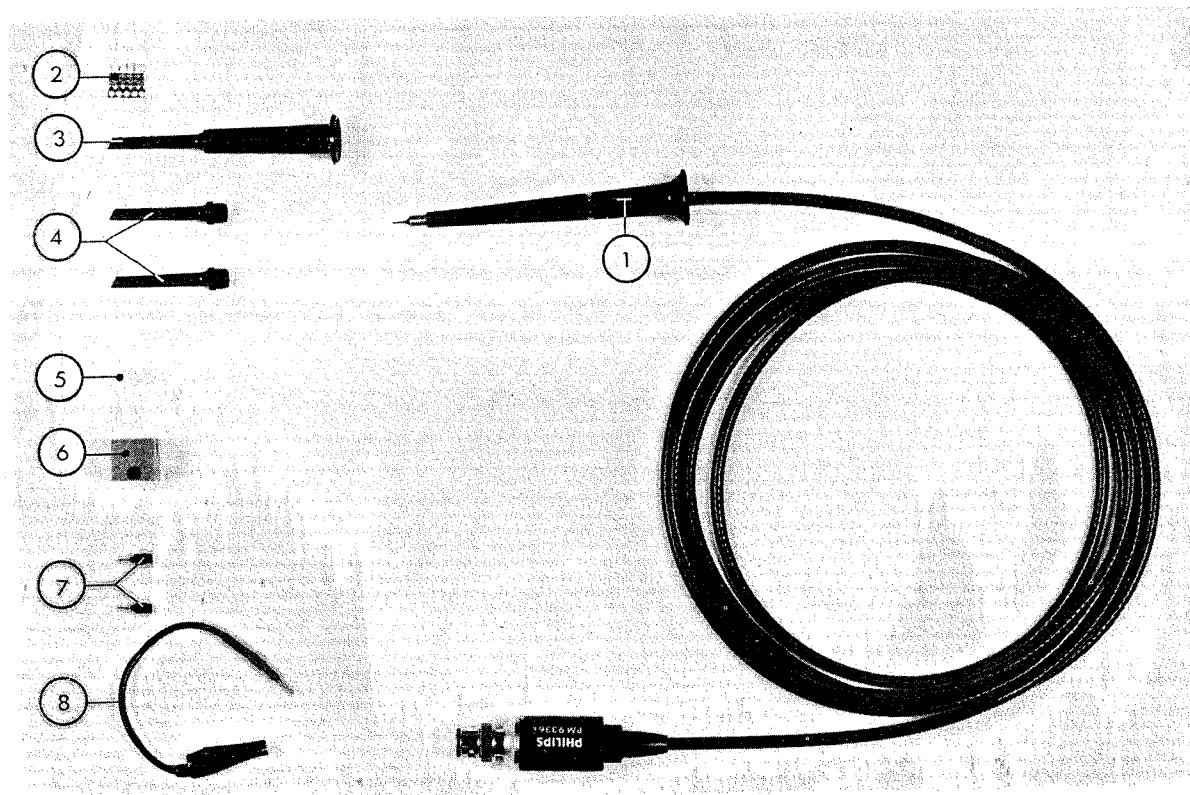

Fig. 3.26. Attenuator probe set PM 9336 (PM 9336L)
1 probe assembly	Fig. 3.26. item 1
5 soldering terminals	Fig. 3.26. item 2
1 test hook	Fig. 3.26. item 3
2 spare test hook sleeves	Fig. 3.26. item 4
1 protective cap	Fig. 3.26. item 5
1 probe holder	Fig. 3.26. item 6
2 probe tips	Fig. 3.26. item 7
1 earthing cord	Fig. 3.26. item 8
3.5.8. MULTI-PURPOSE CAMERA PM 9380 (Fig. 3.26.)